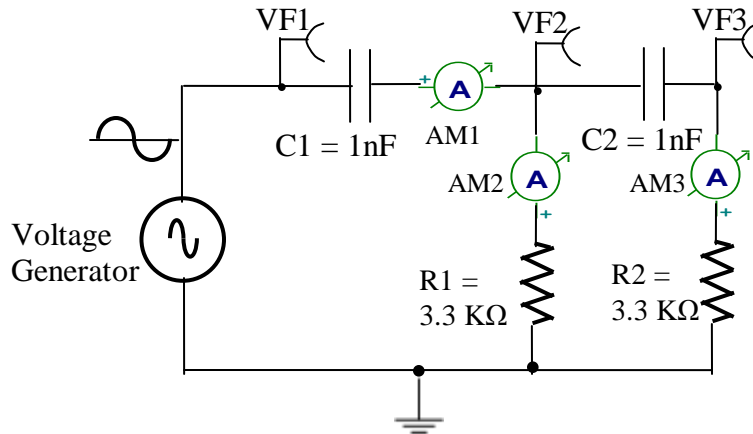

Fig. 3 Phase shifting network with two CR stages
7. Open the Tina Schematics Editor page. Click the “Basic” tab and pick and place two resistors, two capacitors and a voltage generator in convenient locations following the schematic in Fig. 3. (To rid the cursor of the component after placing it on the editor page, click anywhere on the page else, right click and select “Cancel Mode”).
Then, place the ground symbol from the Basic tab and three Voltage pins (VF1, VF2, and VF3) at the input, the output of the first CR stage and the output of the second CR stage from the Meters tab according to the schematic in Fig. 3.
8. Double-click the resistors and capacitors in succession and set the value of each component in the component dialog box according to the schematic in Fig. 3. **Note:** For megohms, use “M”, for milliohms use “m”, for microfarad use “u” and for nanofarad use “n”. Connect the components using the Wire symbol in the menu bar, according to the schematic in Fig. 3.